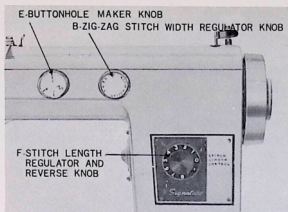
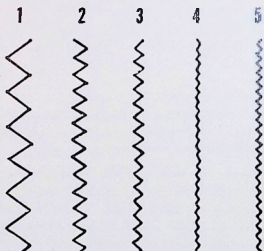
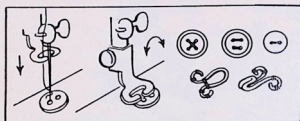

Fig. 17. Zigzag Control Knobs
Fig. 18. Zigzag Stitches
Fig. 28
PRACTICE ZIGZAG STITCH ILLUSTRATED AS No. 1—Fig. 18. This wide zigzag stitch is used on blanket binding, stitching narrow ribbons, decorative borders and rick-rack braid. Adjust the machine as follows:
1. Turn the zigzag stitch width regulator knob, (B) Fig. 17, clockwise as far as it will go—to No. 5.
2. Adjust stitch length regulator (F) for the longest stitch—No. 8.
3. Your machine will now produce the widest zigzag stitch possible, illustrated as (1) in Fig. 18.
PRACTICE ZIGZAG STITCH ILLUSTRATED AS No. 2—Fig. 18. This stitch is used for overcasting seams, appliqueing, applying bias binding, etc. Adjust the machine as follows:
1. Turn zigzag stitch width regulator knob, (B) Fig. 17, to No. 4.
2. Turn stitch length regulator knob (F) to No. 5.
3. Your machine will now produce the stitch illustrated as (2) in Fig. 18.
PRACTICE ZIGZAG STITCH ILLUSTRATED AS No. 3—Fig. 18. This zigzag stitch is used for appliqueing, joining lace, etc. Adjust your machine as follows.
1. Turn zigzag stitch width regulator knob, (B) Fig. 17, to No. 2.
2. Turn stitch length regulator knob (F) to No. 4.
3. Your machine will now produce the zigzag stitch illustrated as No. 3 in Fig. 18.
PRACTICE ZIGZAG STITCH ILLUSTRATED AS No. 4—Fig. 18. This is a very narrow stitch which may be used for stitching arm hole seams or wherever an extra strong seam is desired. Adjust the machine as follows:
1. Turn zigzag stitch width regulator knob, (B) Fig. 17, to No. $\frac{1}{2}$.
2. Turn stitch length regulator knob (F) to No. 2.
3. The machine will now produce the zigzag stitch illustrated as No. 4 in Fig. 18.
PRACTICE ZIGZAG STITCH ILLUSTRATED AS No. 5—Fig. 18. This is a very tiny stitch used for fine rolled hems, dainty lace, appliqueing, top stitching bias seams, decorating baby clothes, etc. Adjust the machine as follows:
1. Turn zigzag stitch width regulator knob, (B) Fig. 17, to No. 1.
3. The machine will now produce the zigzag stitch illustrated as No. 5 in Fig. 18.
Before embroidering any of the following stitch patterns, set the stitch width regulator knob (B) Fig. 17, at No. 5.
1. Turn zigzag stitch width regulator knob, (B) Fig. 17, to produce the width of zigzag stitch desired.
2. Turn zigzag stitch width regulator knob, (B) Fig. 17, to No. 1 or No. 1½ to produce a narrow zigzag stitch.
3. Set stitch length regulator (F) at No. 4 or No. 5. Stitches should not be too close.
2. Turn zigzag stitch width regulator knob, (B) Fig. 17, to No. 0.
3. Set stitch length regulator knob (F) Fig. 17, at No. 4.
Proceed as outlined above, except that in step 2 above, turn zigzag stitch width regulator knob, (B) Fig. 17, to No. 2.
3. Set stitch length regulator knob (F) at No. 4.
2. Set stitch length regulator knob (F) at No. 2.
3. Place the patch over the hole and sew the patch on to the garment. This stitch is almost like a regular machine stitch but is strong, and it resists ripping. Now trim off the projecting edges of material. Turn the zigzag stitch regulator knob (B) to No. 2, while leaving the stitch length regulator knob at No. 2 and sew a zigzag seam over the wavy zigzag stitch.
2. Set stitch length regulator knob (F) at No. 1.